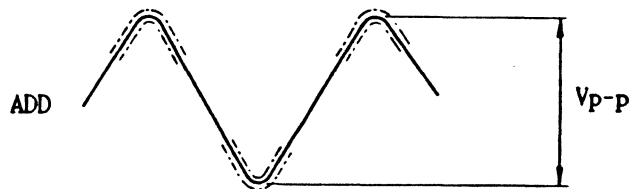

Fig. 410 Measuring Average Read Level (2F)
- (2) Install the level disk and start the spindle motor.
- (3) Move the head to the innermost track
- (4) Perform recording for one track turn at a fixed frequency of 2F (250kHz with WRITE DATA frequency).
- (5) According to Fig.410, measure the average read level (V_{p-p}).
- (6) Substitute the following formula with the values measured in (5) and calibrated of READ LEVEL (see label on level disk).